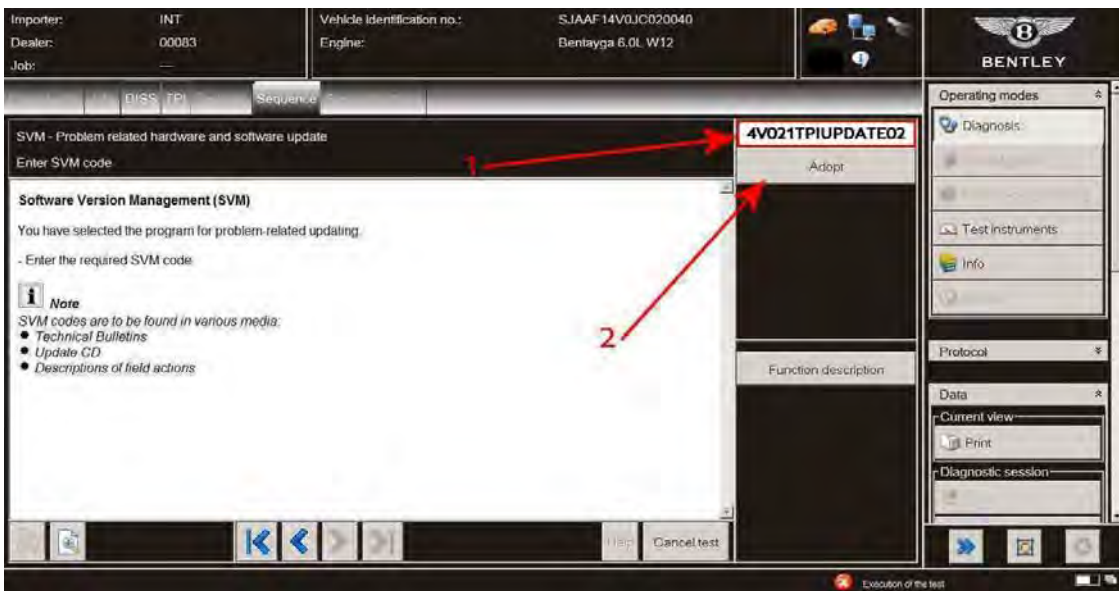

Figure 3
9. Referring to Figure 3, at the SVM screen (1) enter the specific SVM code 4V021TPIUPDATE02 and then select Adopt (2)